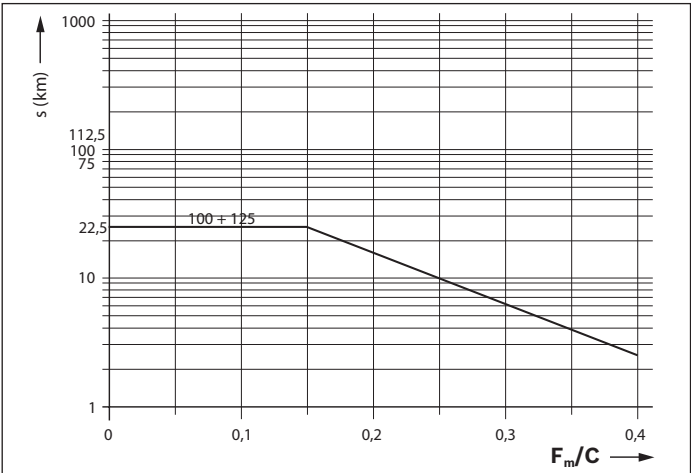

Fig. 13
- Apply the minimum quantity according to table 12 at the lube connection until the relubrication interval (figure 13) has been reached.
- Apply the minimum quantity according to table 12 for each lube connection until the relubrication interval (figure 13) has been reached.
The lubricating cycle time is then the result of dividing the relubrication interval (according to figure 13) by the determined number of pulses (see dimensioning example).